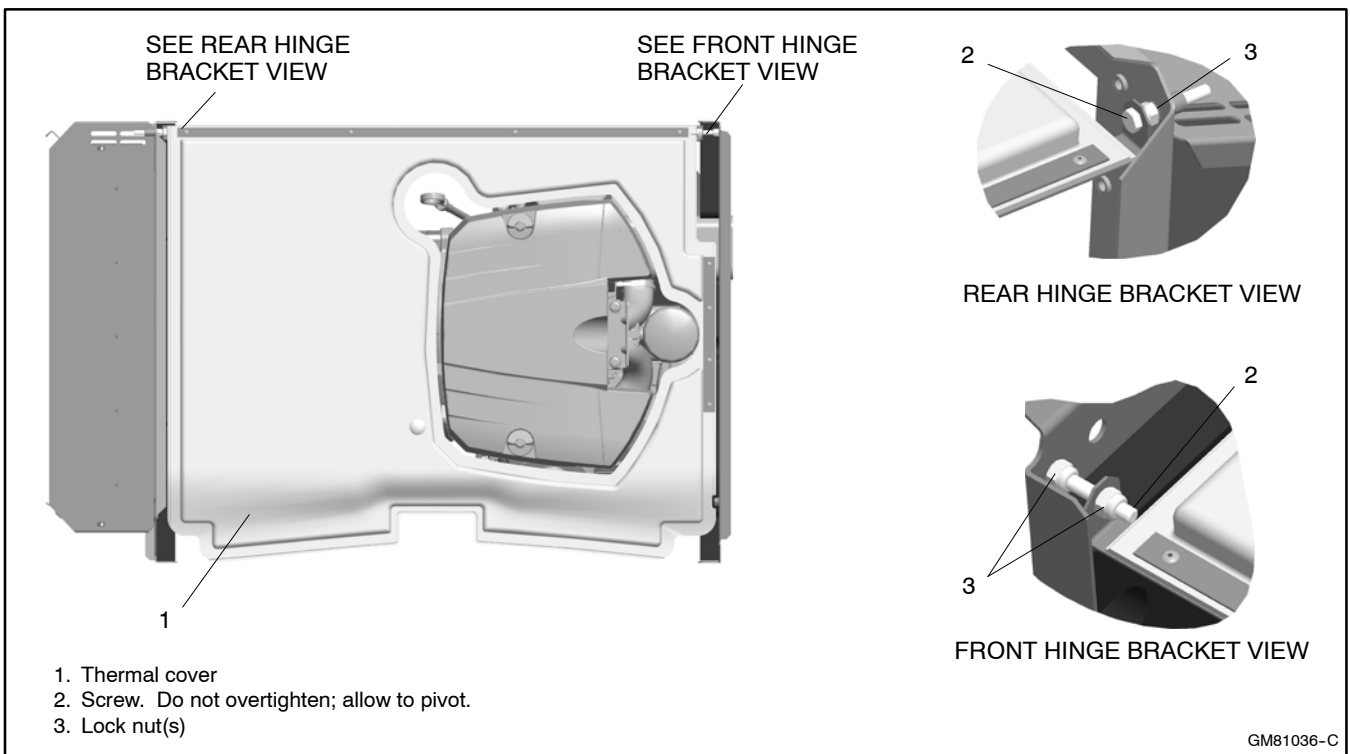

Figure 7-3 Thermal Cover
a. Loosen and remove the lock nuts from the front and rear hinge brackets. See Figure 7-3.